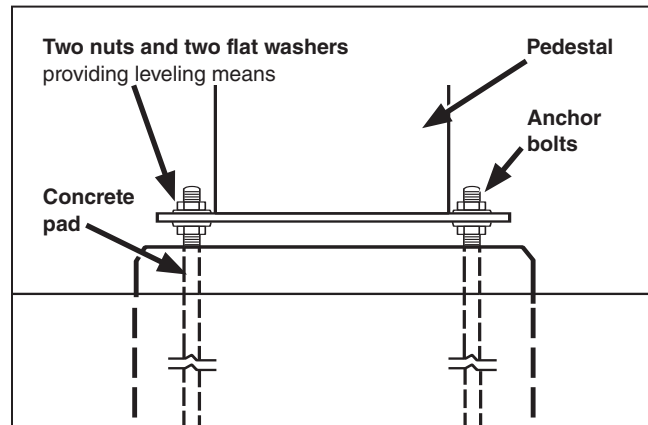

Figure 3. Adjust the anchor-bolt nuts to plumb and level the pedestals.
- (d) Adjust the lower set of anchor-bolt nuts to plumb and level the pedestal. The upper set of anchor-bolt nuts should remain loosely attached. See Figure 3. Repeat this step for the remaining pedestal.